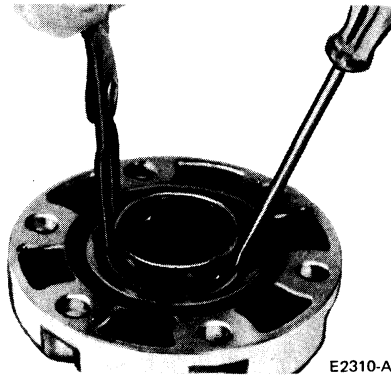

FIG. 18 Knob Retainer Snap Ring Installation
8. Install the knob retainer snap ring. Spread snap ring with snap ring pliers. Use a small screwdriver to position the snap ring in the groove of the knob (Fig. 18).